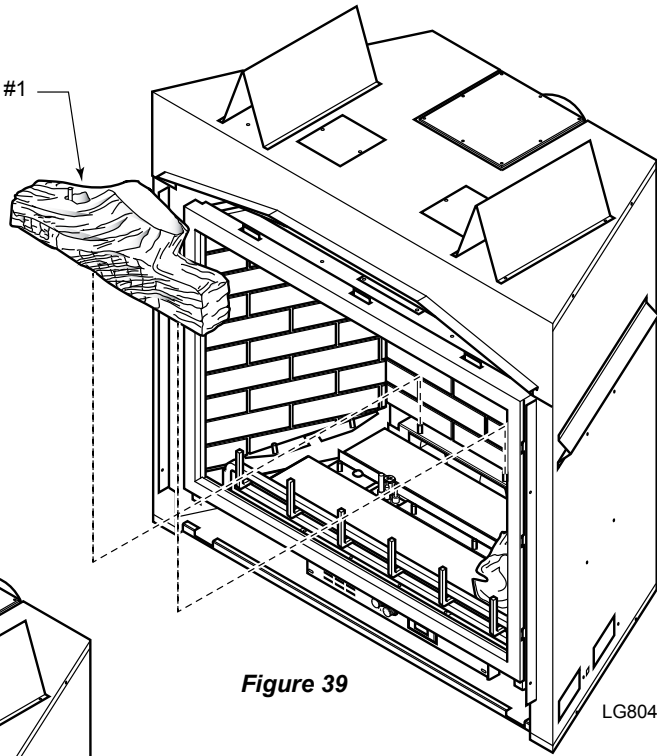

Figure 39
4. Place rear log (#1) on two pins against back side of firebox. *Figure 39*